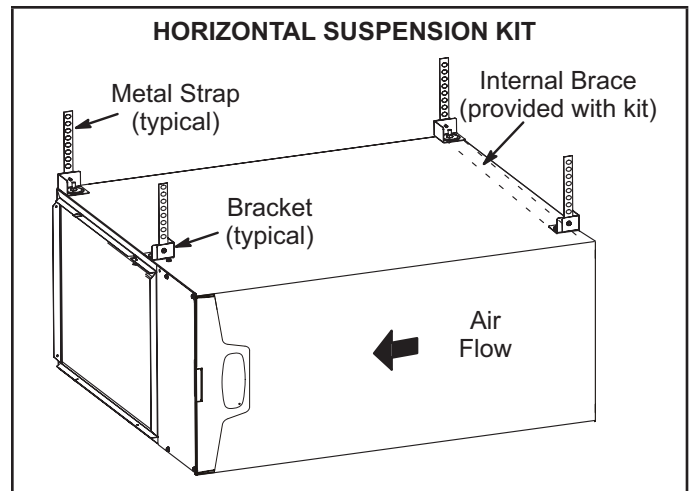
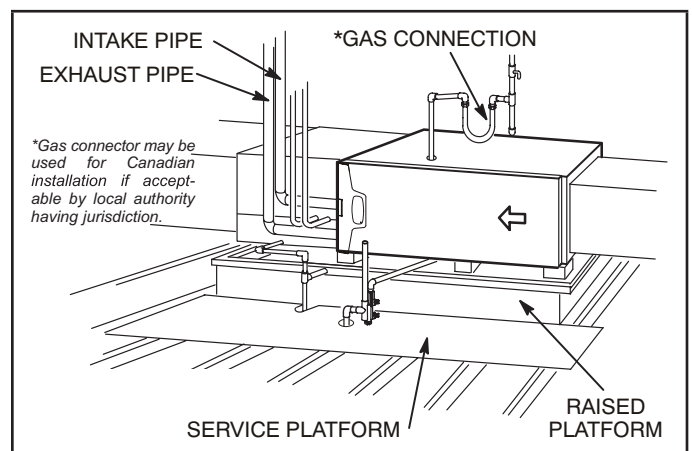

FIGURE 12
FIGURE 13
This furnace may be installed in either an attic or a crawlspace. Either suspend the furnace from roof rafters or floor joists, as shown in figure 12, or install the furnace on a platform, as shown in figure 13. A horizontal suspension kit (51W10) may be ordered from Lennox or use equivalent.
- 2 - Construct a raised wooden frame and cover frame with a plywood sheet. If unit is installed above finished space, install an auxiliary drain pan under unit. Set unit in drain pan as shown in figure 13. Leave 8 inches for service clearance below unit for condensate trap.